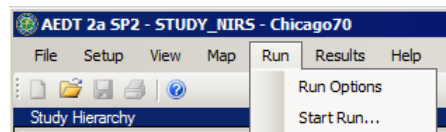
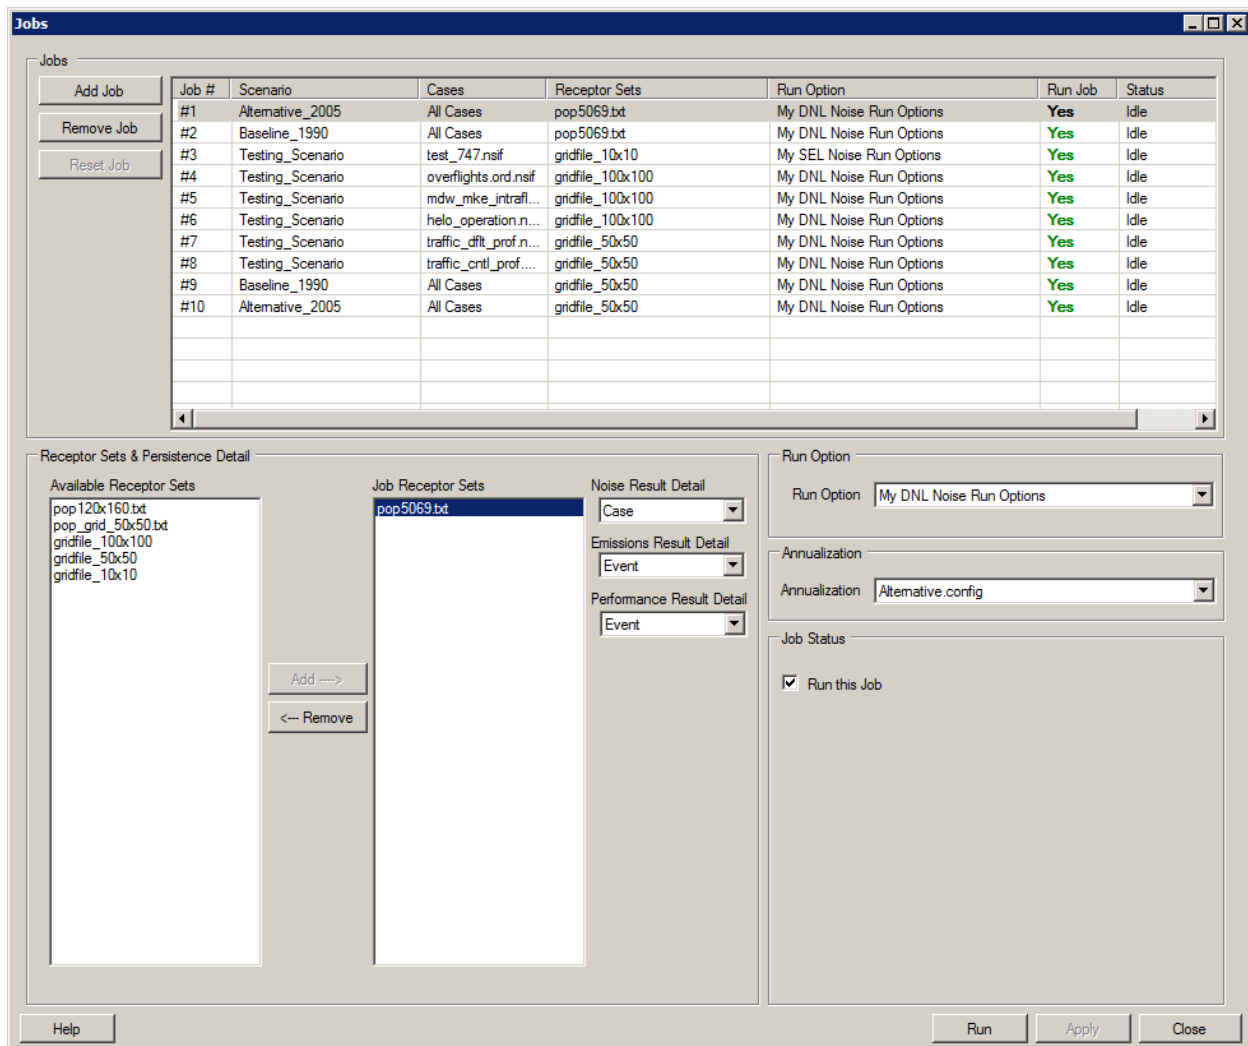

Figure 7-5 Run Menu
Figure 7-6 Jobs Dialog Box
1. From the *Run* menu, click *Start Run...* (Figure 7-5) to open the *Jobs* dialog box (Figure 7-6). The top of the *Jobs* dialog box provides summary information for each job in the study, including the job #, scenario name, cases, receptor sets, run option, run job (yes/no), and status. The user can modify job information upon selection of a particular Job.